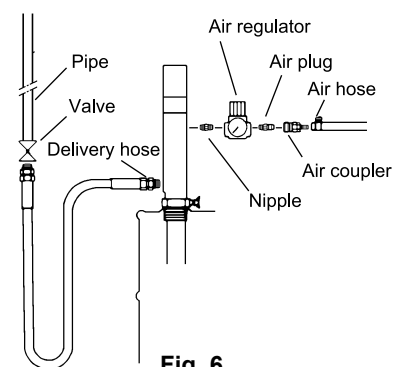

Fig. 6
- The material hose used should have pressure resistance of 3 MPa or more and be oil resistant. When an adequate hose is not available, place an order with our dealer for a special purpose hose by the following production number. (Fig. 6)
<p>[Precaution for installation]</p>  <p>- Do not directly connect the piping to the pump. Direct connection damages the piping by vibrations when running the pump, causes noises, and in case of the drum pump, makes it impossible to replace the drum can and disables maintenance of the pump. (Fig. 6)</p>